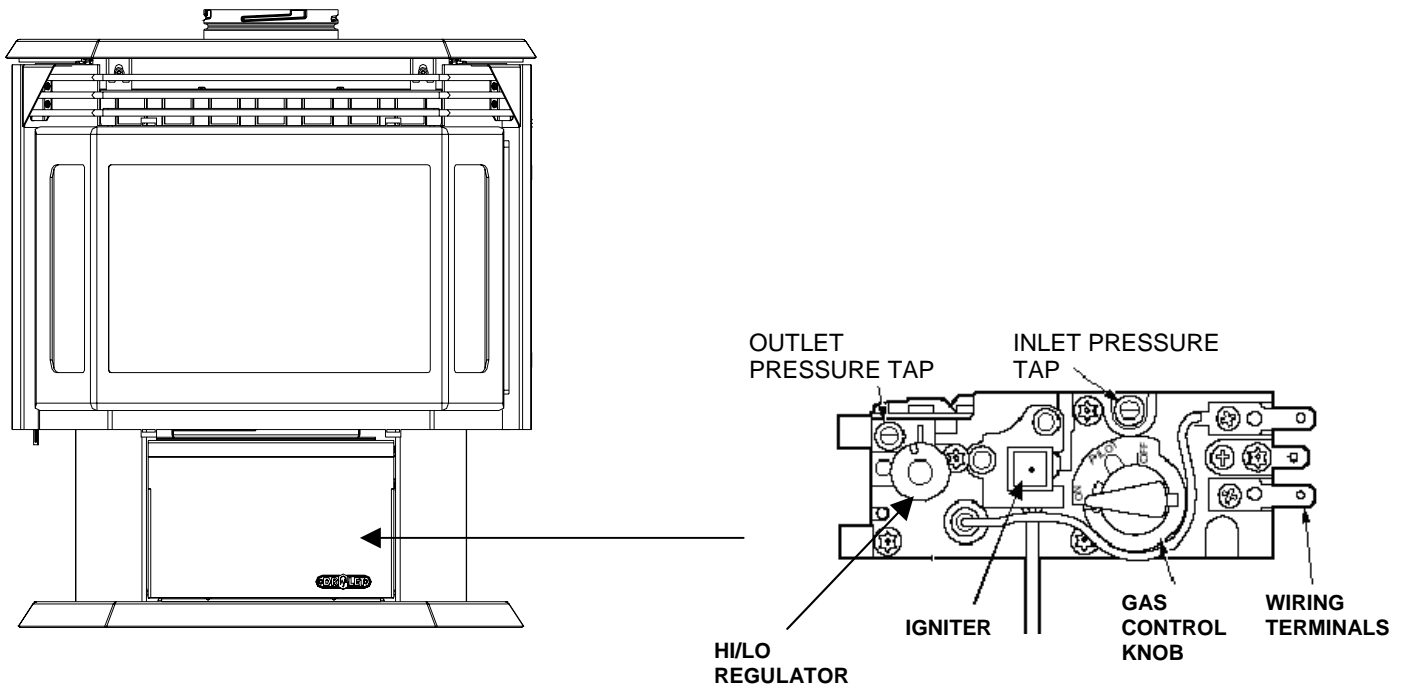

Figure 2
The valve supplied with the appliance has a HI/LO knob to control the heat output and flame height (see Figure 2).
- Upon initial firing check manifold pressure at pressure tap located on the front of the control valve (see Figure 2).